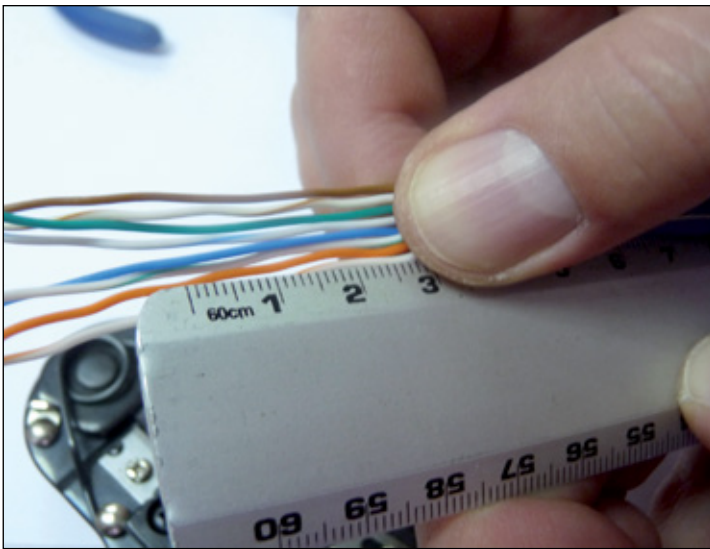

Figure 9
- 8 Proceed to measure an approximate length of 30mm from the jacket end and make a straight cut with the cable Crimp tool cutter as shown in **Figures 9 and 10**.